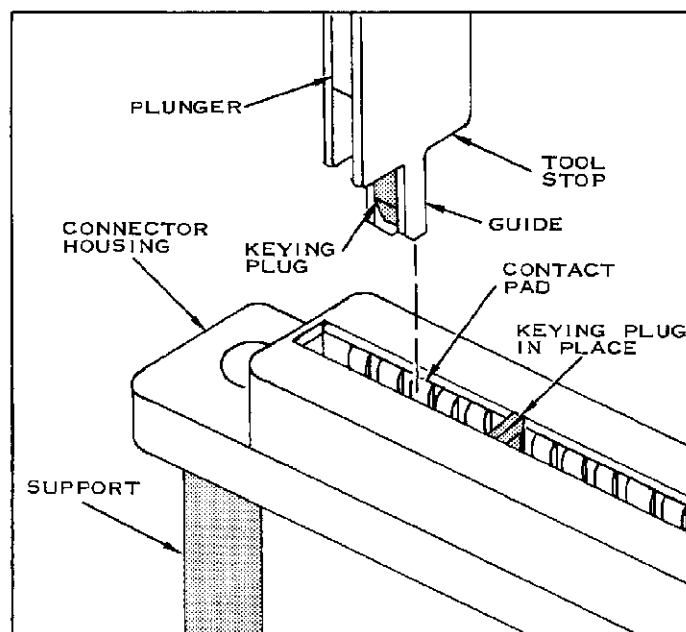

FIGURE 2
2. Push the Keying Plug back into the Plunger Housing approximately 1/8 of an inch beyond the end of the Guides. See Figure 2.
3. With the Connector FIRMLY SUPPORTED, position the Guides over the Contact Pads. See Figure 2.